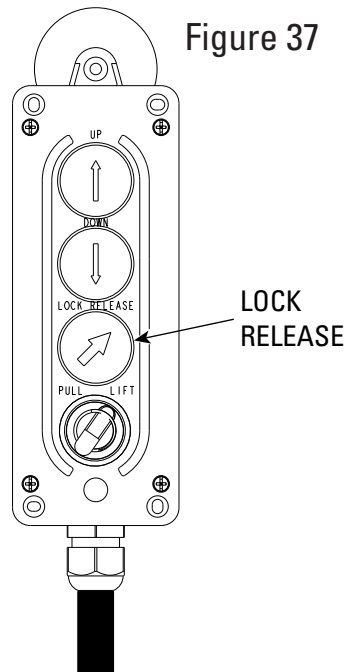

Figure 37
4. Disengage lock arms by depressing and holding "LOCK RELEASE" button on pendant. Figure 37.